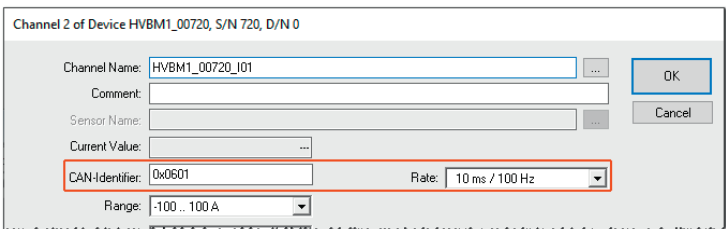

Fig. 6-38: **Channel configuration dialog**, module connected via CAN and **Per channel configuration** enabled
- Enable the option **Per channel configuration** in the **CAN** section (Fig. 6-38).
- ▶ The options **CAN identifier** and **Rate** are now available in the **Channel configuration dialog** (Fig. 6-38).